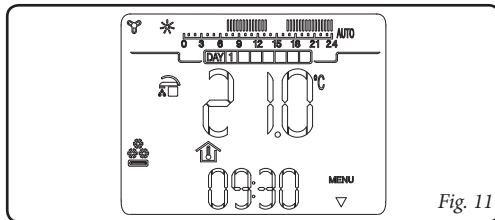

Fig. 11
- **Cooling mode** (❄️). In cooling mode the boiler is enabled for the production of DHW and to control an external motocondensing (only for models set-up) for cooling rooms. In "cooling" mode the CAR v2 remote control can function in automatic or manual mode. For the description of functioning see chapter 7. The display shows the day and current time, the room temperature and the hour bar with the daily programming of the cooling timer along with the relative symbols (fig. 11).